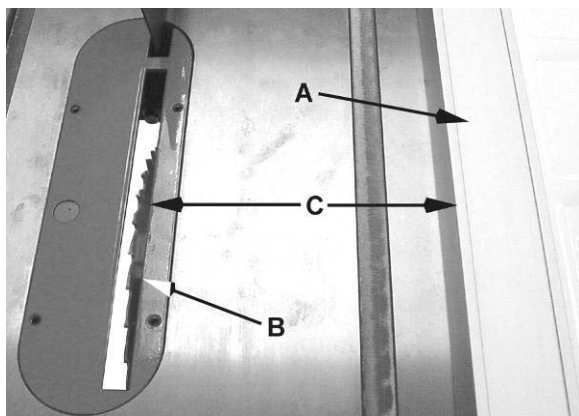

Figure 25
The rip fence (A, Fig. 25) should be set for the width of the cut (C, Fig. 25) by using the scale on the front rail, or by measuring the distance between the blade (B) and fence (A). Stand out